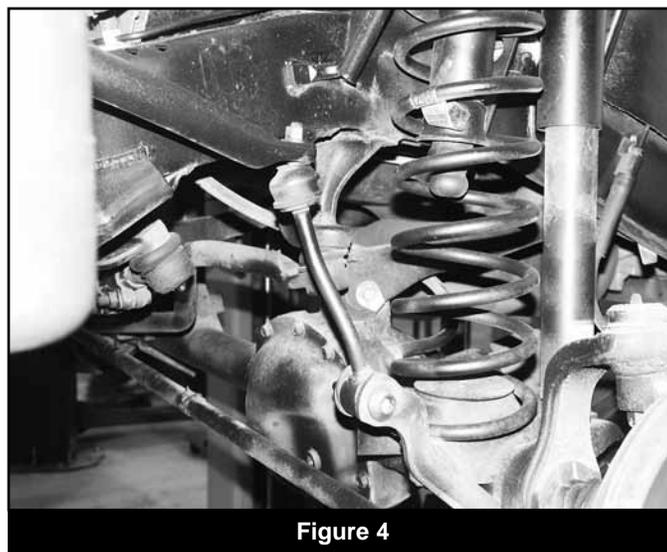

Figure 4
18. Disconnect the sway bar end links from the axle and sway bar (Fig 4). The link is fit into the sway bar with a taper that must be released. Use a pickle fork to remove the link from the sway bar. On some models the end link bolt has a serrated shank that is pressed into the mount. The bolt will need to be pressed out.